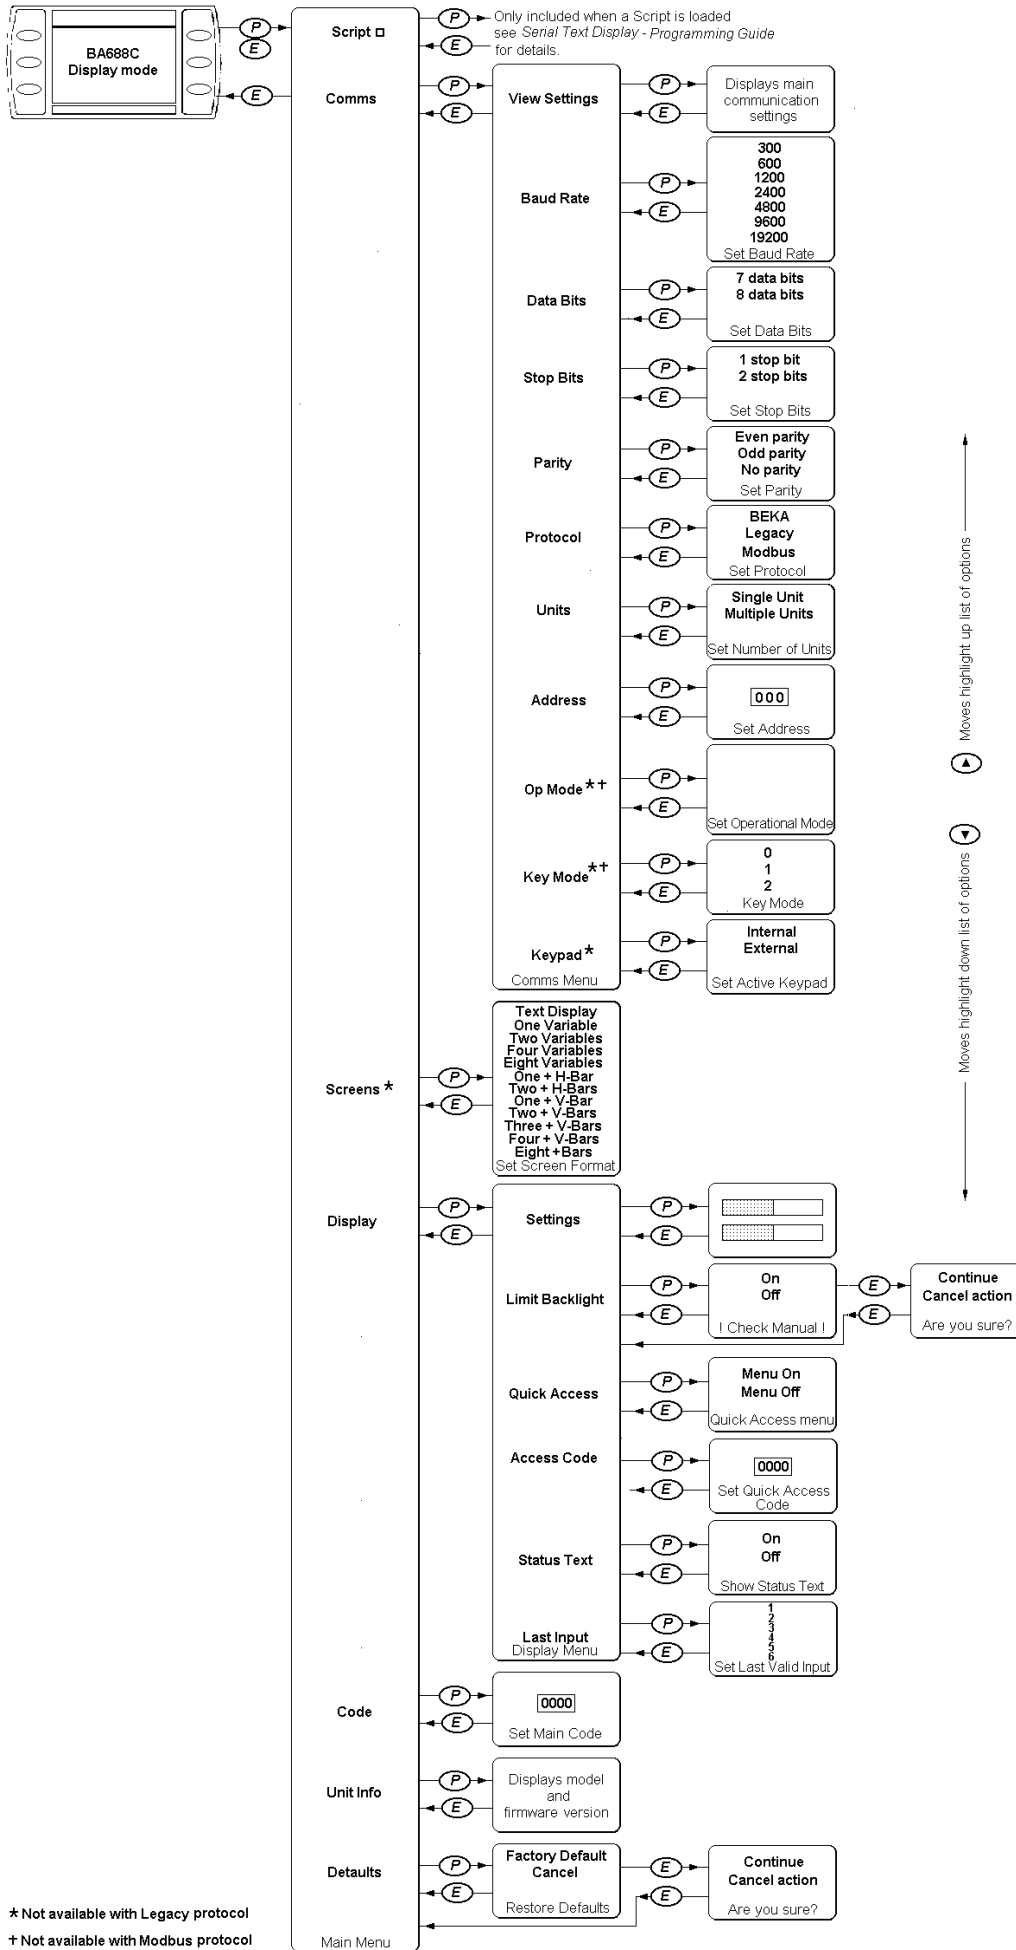

Fig 5 Structure of Configuration Menu
The BA688C is configured via four of the front panel push-buttons. All the configuration functions are contained in an easy to use menu shown in Fig 5. Where necessary the sub-menus contain on-screen prompts to guide the user through each adjustment.
This section provides a brief explanation of each configurable function and should be read in conjunction with Fig 5.
5. To set the instrument's basic communications parameters enter the configuration menu by pressing the *P* and *E* push-buttons simultaneously. Fig 5 shows the menu structure and navigation.